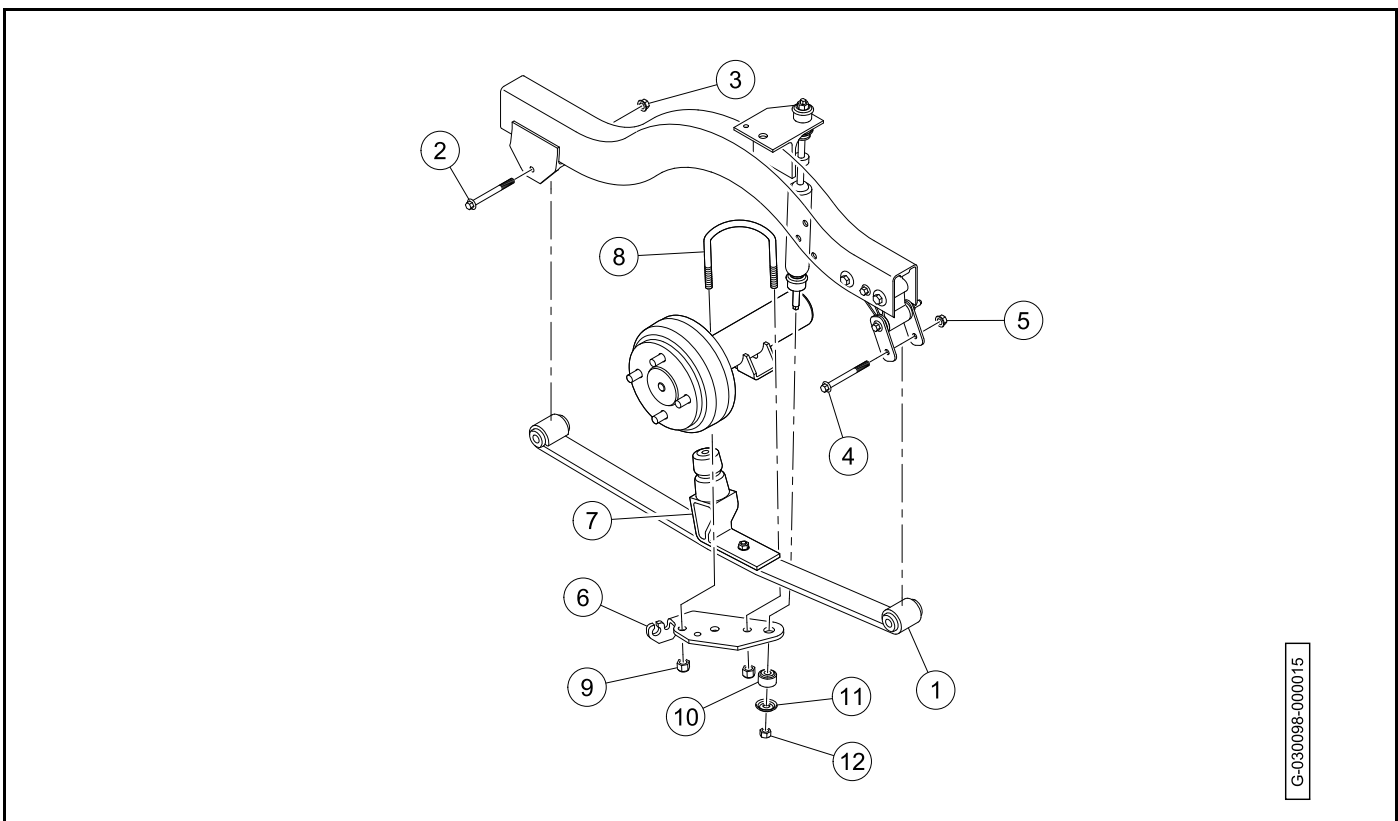

Figure 9-11 Leaf Spring Installation (Four-Passenger)
1. Install the front of the leaf spring (1) onto the vehicle frame (**Figure 9-11, Page 9-10**).